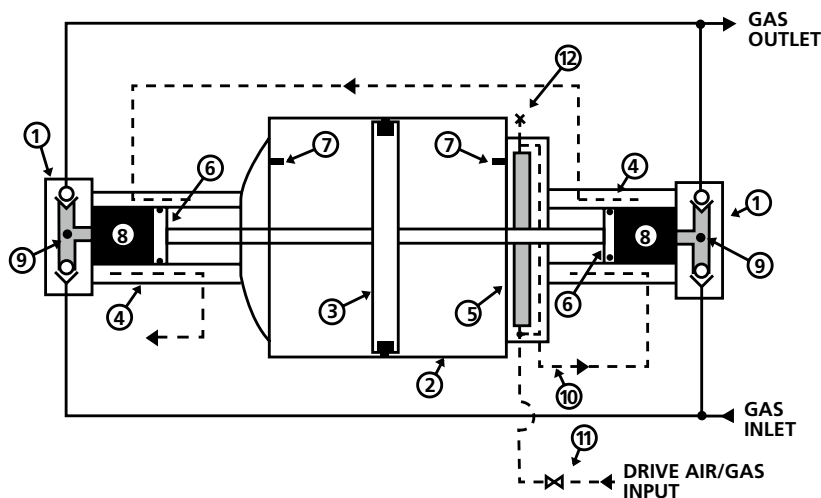

Figure 1. Typical Double Acting, Single Drive, Single Stage Unit (Model 5G-DS-Ratio)
An air (or gas) driven gas booster has a continuously reciprocating drive piston section directly connected to one or two gas boosting sections, as illustrated in Figure 1. The drive section includes a four-way air cycling valve and dual air pilot valves to provide the continuous reciprocation. Normally, start/stop control is accomplished by cutting off drive- or pilot-air input. (For description of gas section operation, see Page 3, Volumetric Efficiency.)
- Heat of compression reduced for long seal life because cold exhaust air surrounds gas barrel(s) inside cooling sleeve(s) (see Figure 1, Item 4 above).
encountered. To understand this, refer to Figure 1 on Page 2. A gas piston cycle consists of a compression stroke and a suction stroke. During the compression stroke, the gas compresses from "swept" into "unswept" space; during the suction stroke, the gas flows back from unswept into swept space. If the gas is compressed to a very high ratio during the compression stroke, the unswept gas may come back during the suction stroke at a residual pressure high enough that the inlet supply pressure cannot open the inlet check valve. When this happens, volumetric efficiency and outlet gas flow reach zero, i.e., the unit has reached its maximum compression ratio; (chart 1, page 4).